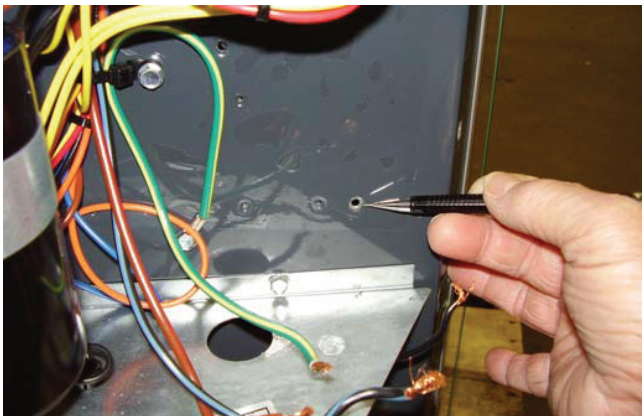

Figure 1 - Location of hole
3. Locate dimpled hole in panel as shown in Figure 1.